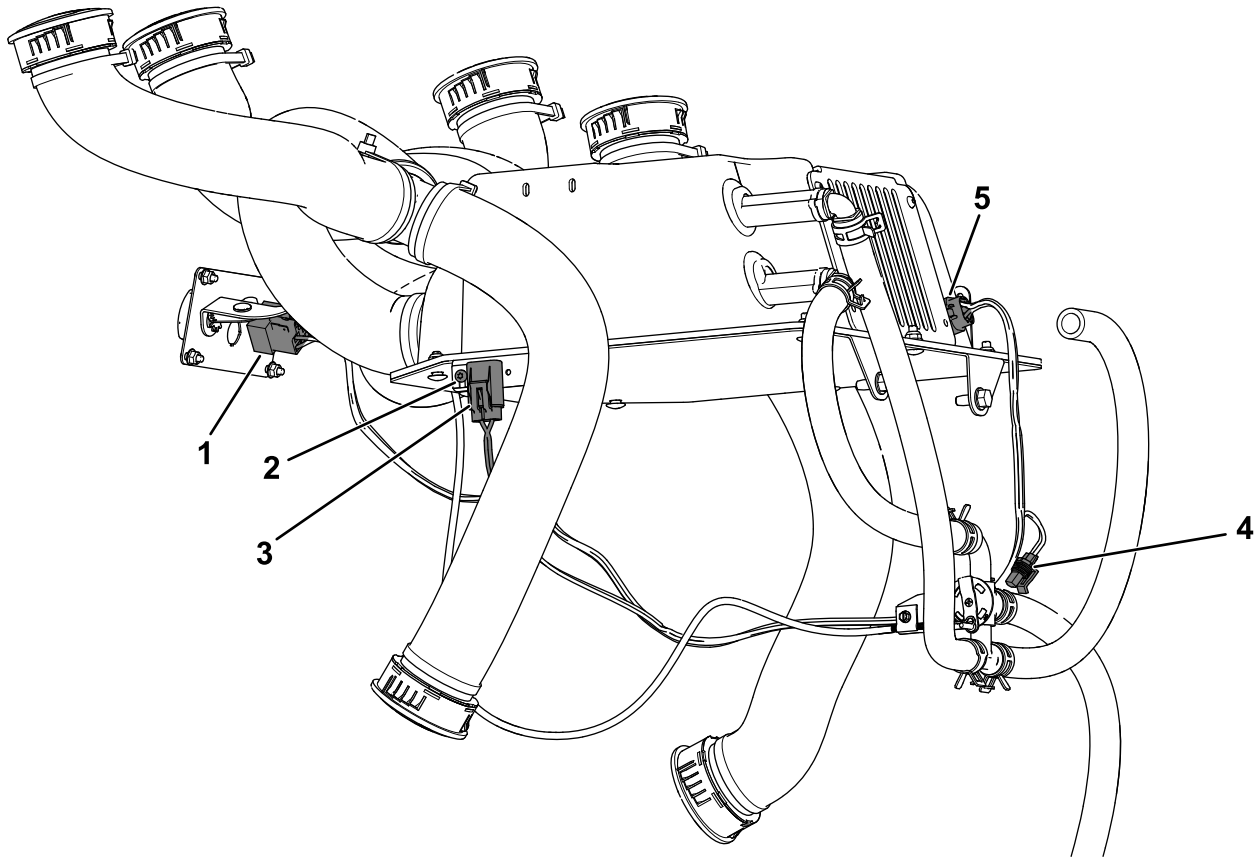

Figure 23
1. Install the fuse cover (supplied with kit wire harness) onto the left side of the heater box with the pan-head bolt (#10-24 x 3/8 inch) as shown in Figure 23.
2. Route the kit wire harness as shown in Figure 23.